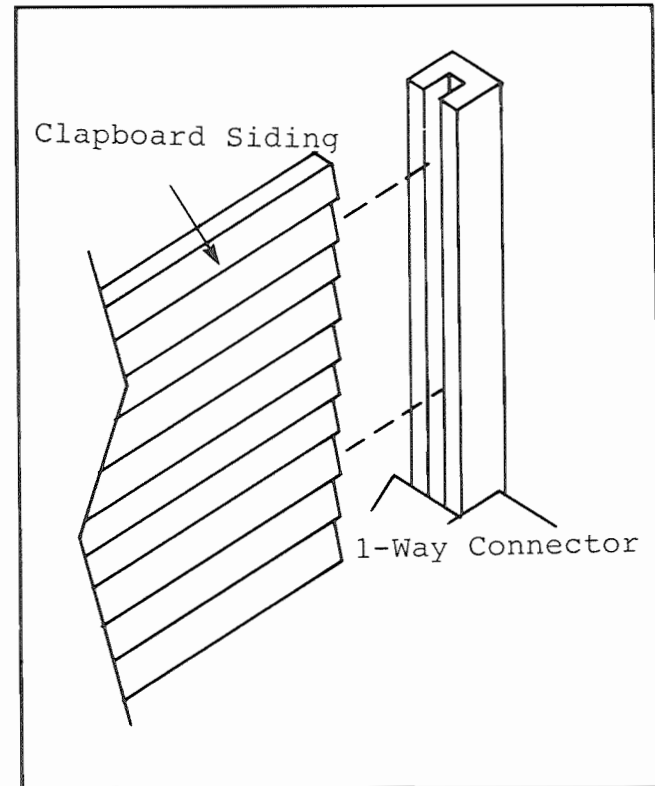

FIGURE 2B
9. When the wall sections are completely dry, it is necessary to attach the corner connectors to the wall sections. Figure 2B illustrates how the connectors fit onto the wall sections.